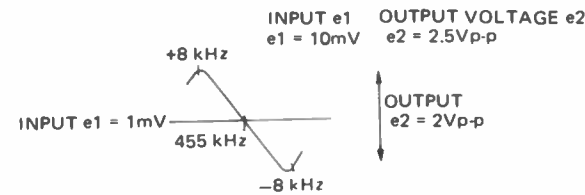

FIGURE 4. IF DISCRIMINATOR CURVE
Step 3: Adjust T1 of RF Section and T1, T2 of IF amplifier so that the 455 kHz marker is in the center of the discriminator curve, and for best linearity. Refer to Figure 4.